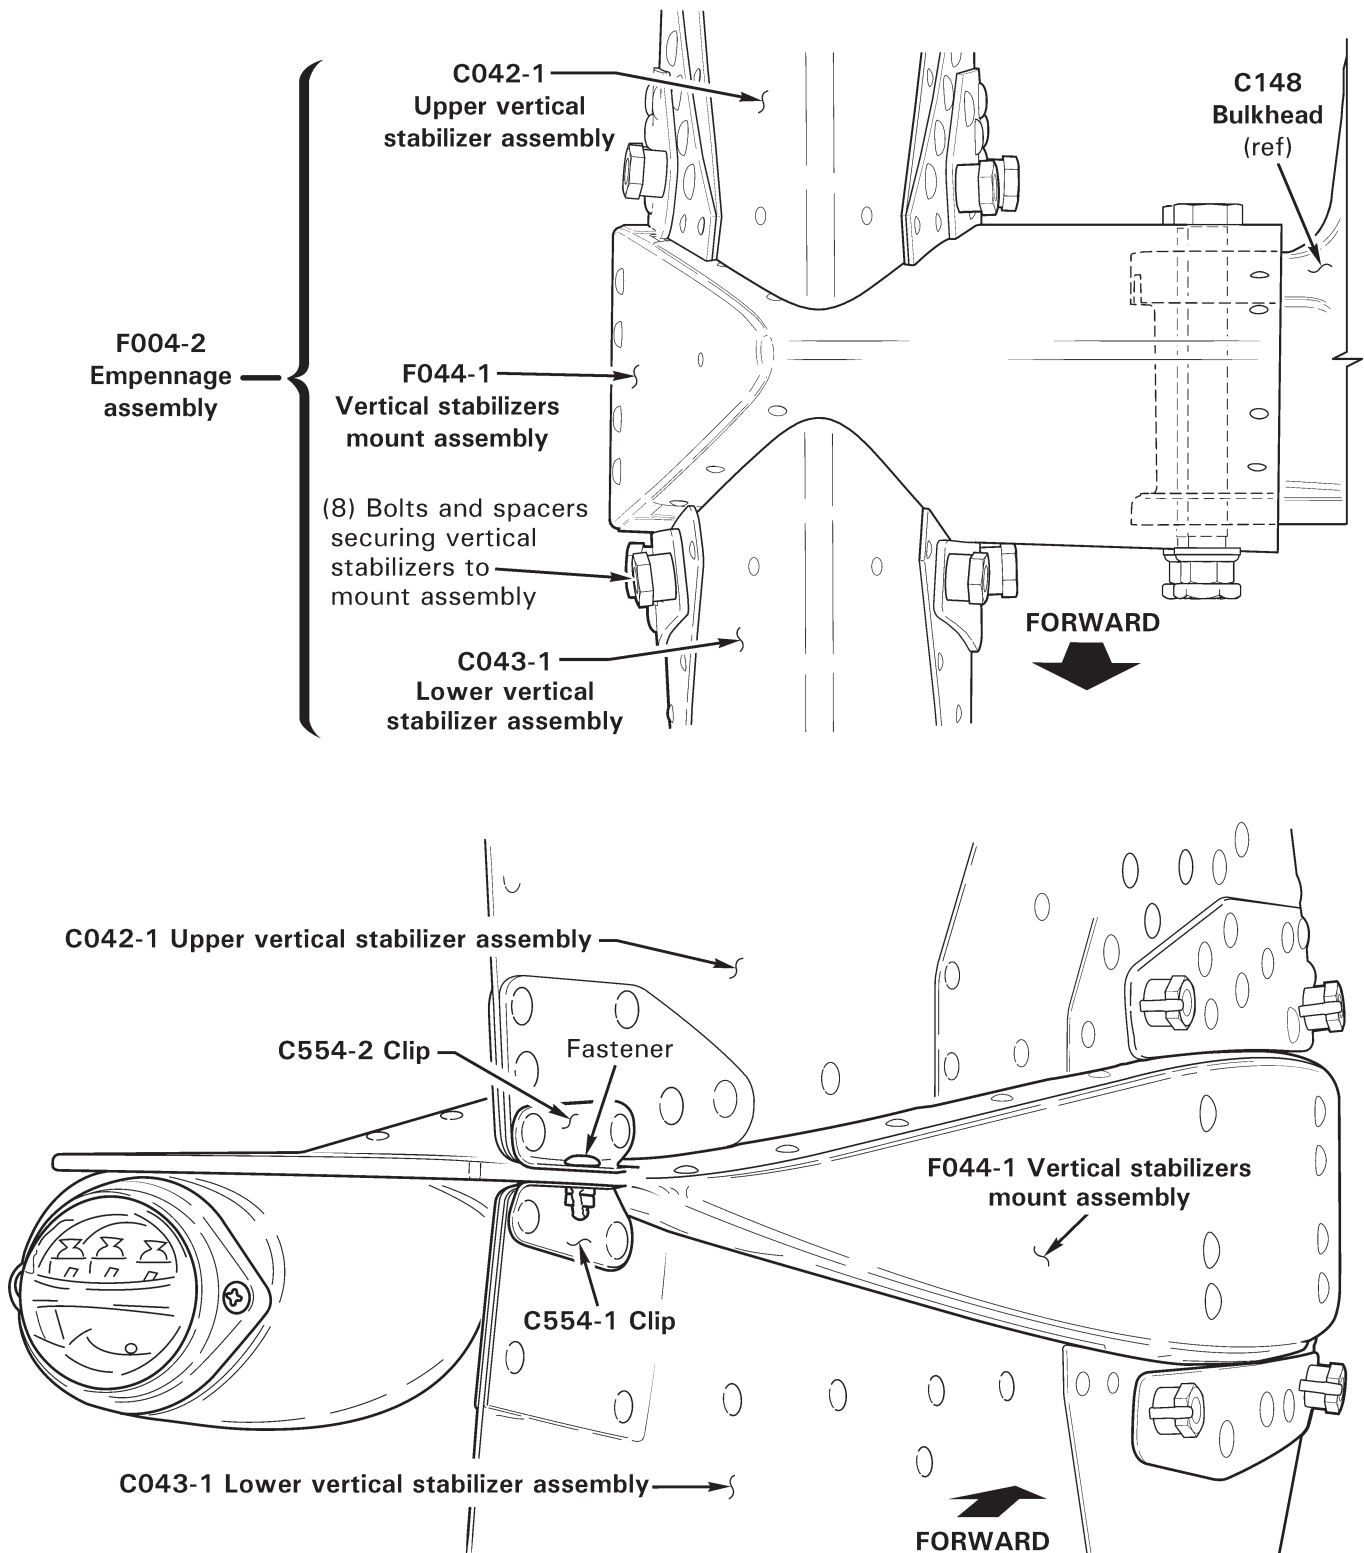

FIGURE 53-7 F004-2 EMPENNAGE ASSEMBLY
3. Refer to Figure 53-7 or 53-7A. Supporting empennage assembly, remove hardware securing empennage to C148 bulkhead, and remove empennage.
1. Refer to Figure 53-7 or 53-7A. Position empennage assembly on C148 bulkhead.
1. Refer to Figure 53-7 or 53-7A. Remove fastener securing C554-1 & -2 clips to F044-1 vertical stabilizers mount assembly (or C044-1 or -2 horizontal stabilizer, if installed).
1. Refer to Figure 53-7 or 53-7A. Position C042-1 upper vertical stabilizer assembly on empennage assembly. Verify 0.030–0.120 inch gap between vertical stabilizer skin edges and F044-1 vertical stabilizers mount assembly (or C044-1 or -2 horizontal stabilizer, if installed) upper skin. File vertical stabilizer skin edge(s) as required. Conversion coat & prime bare aluminum edges per §§ 20-51 & 20-60.
3. Refer to Figure 53-7 or 53-7A. Remove fastener securing C554-1 & -2 clips to F044-1 vertical stabilizers mount assembly (or C044-1 or -2 horizontal stabilizer, if installed).
1. Refer to Figure 53-7 or 53-7A. Position C043-1 lower vertical stabilizer assembly on empennage assembly. Verify 0.030–0.120 inch gap between vertical stabilizer skin edges and F044-1 vertical stabilizers mount assembly (or C044-1 or -2 horizontal stabilizer, if installed) lower skin. File vertical stabilizer skin edge(s) as required. Conversion coat & prime bare aluminum edges per §§ 20-51 & 20-60.